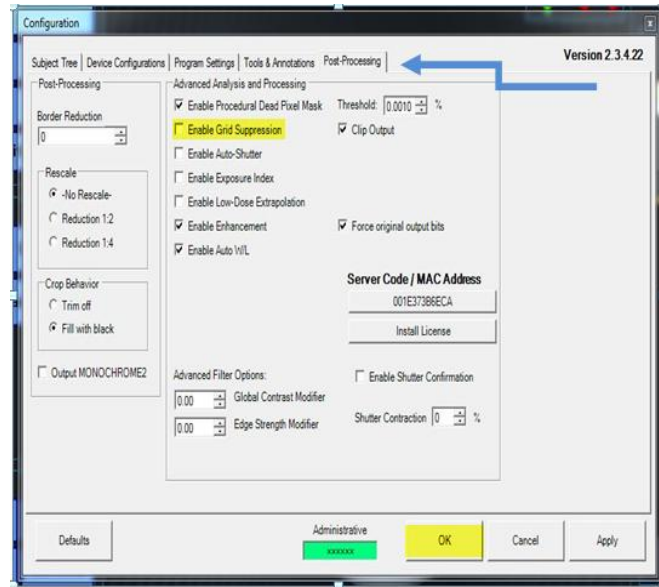

Figure 5
3. Select the **Post Processing** tab. **Figure 5**
13. Select the *Post Processing* tab again. **Figure 5**